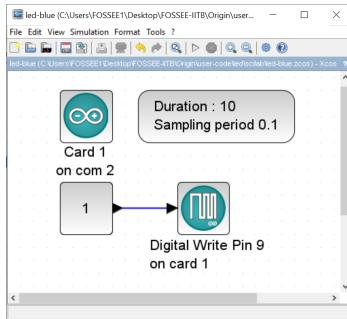

Figure 4.6: Turning the blue LED on through Xcos. This is what one sees when Origin/user-code/led/scilab/led-blue.zcos, see Footnote 2 on page 3 is invoked.
1. First we will see how to turn on the blue LED. When the file required for this experiment is invoked, one gets the GUI as in Fig. 4.6. In the caption of this figure, one can see where to locate the file.